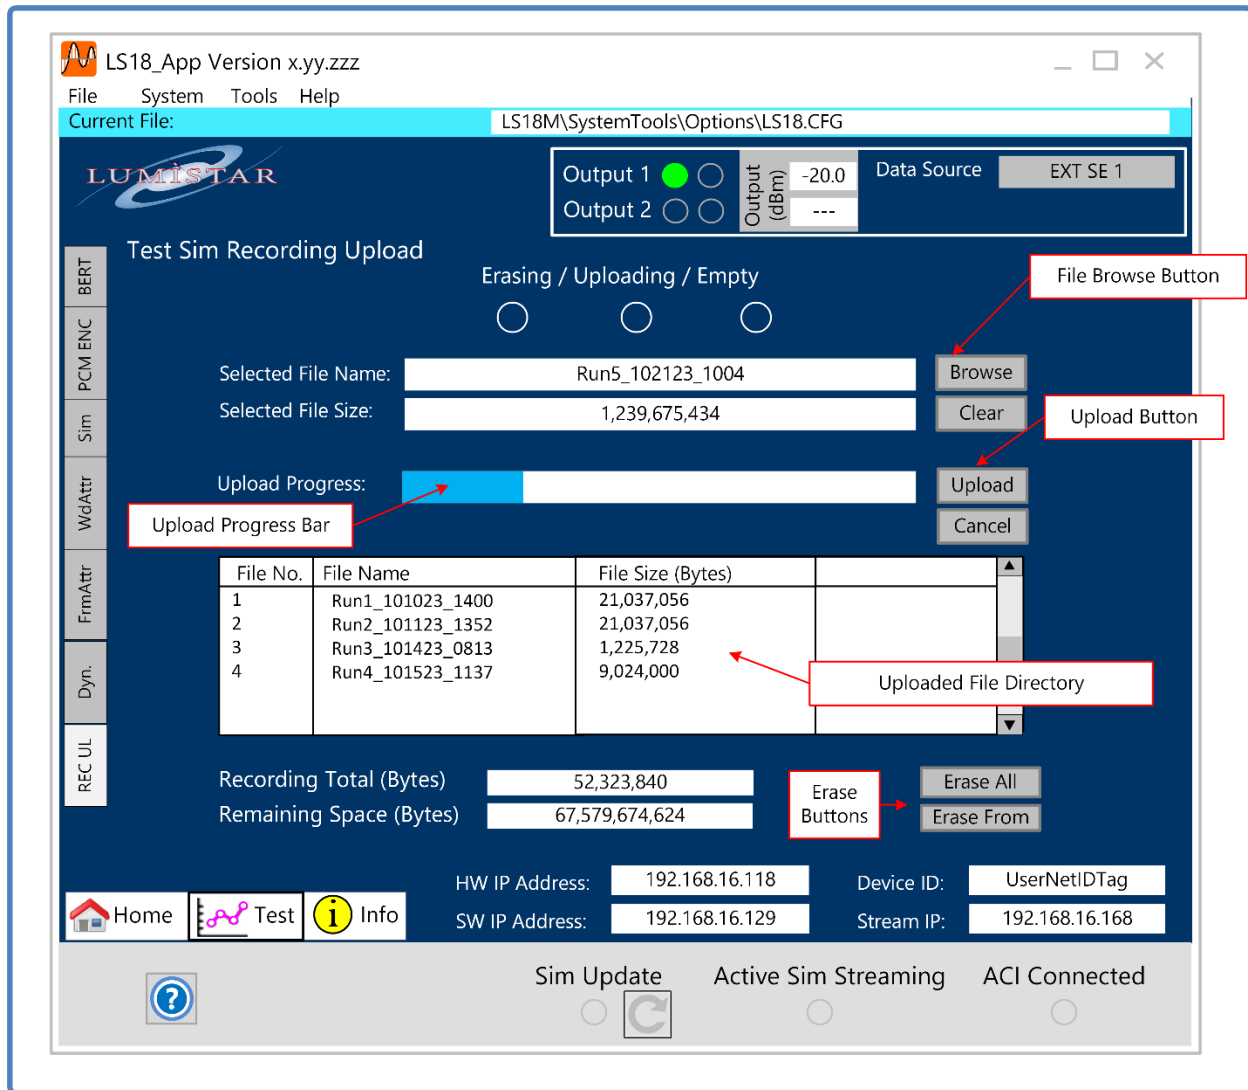

Figure 5-11 Playback Upload Controls
- 16.) Refer to Figure 5-11 for the remaining steps.